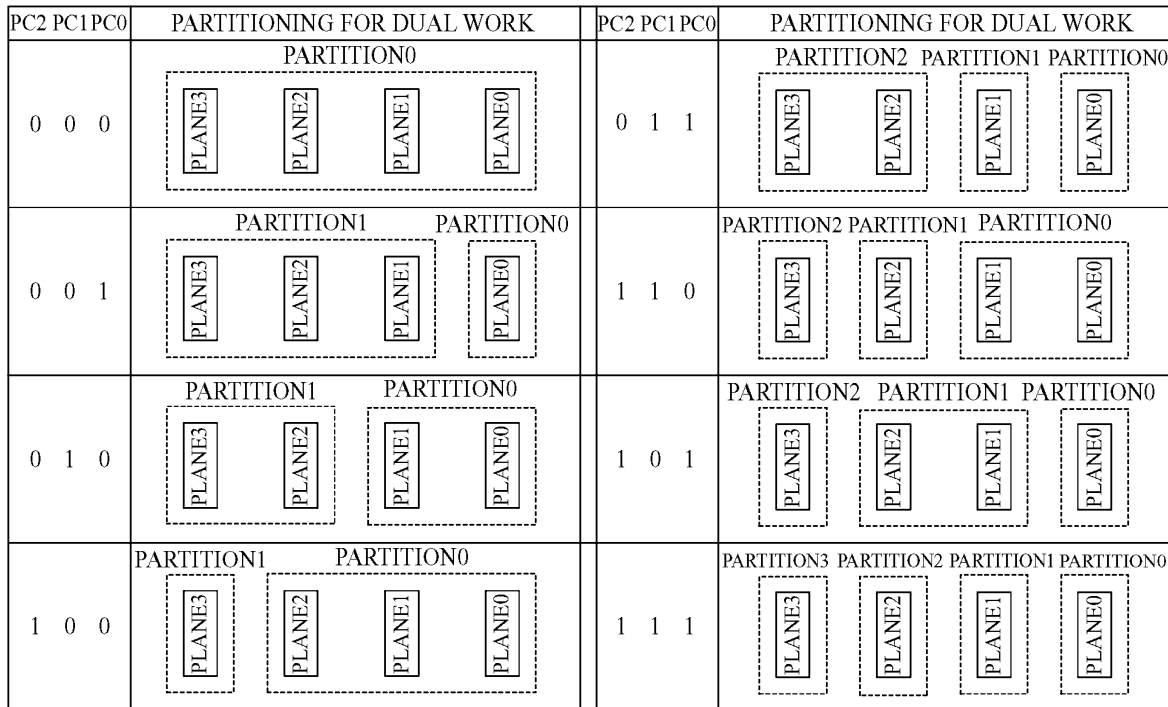

Figure 17. Partition Configuration
The partition configuration shown in Table 17 determines the partition boundaries for the dual work (simultaneous read while erase/program) operation. The partition boundaries can be set to any plane boundaries. If the partition configuration register bits PCR.10-8 (PC.2-0) are set to "001", the partition boundary is set between plane0 and plane1. There are two partitions in this configuration. Plane1-3 are merged to one partition. Status registers for plane1-3 are also merged to one. If the partition configuration register bits are set to "101", the partition boundaries are set between plane0 and plane1 and between plane2 and plane3. There are three partitions in this configuration. Plane1-2 are merged to one partition. If the partition configuration register bits are set to "111", there are four partitions. Each partition is just the same as each plane. Figure 17 illustrates the various partition configuration.
<p>PCR.15-11 = RESERVED FOR FUTURE ENHANCEMENTS (R)</p> <p>PCR.10-8 = PARTITION CONFIGURATION (PC2-0)</p> <ul style="list-style-type: none"> • 000 = No partitioning. Dual Work is not allowed. • 001 = Plane1-3 are merged into one partition. (default in a bottom parameter device) • 010 = Plane 0-1 and Plane2-3 are merged into one partition respectively. • 100 = Plane 0-2 are merged into one partition. (default in a top parameter device) • 011 = Plane 2-3 are merged into one partition. There are three partitions in this configuration. Dual work operation is available between any two partitions. • 110 = Plane 0-1 are merged into one partition. There are three partitions in this configuration. Dual work operation is available between any two partitions. • 101 = Plane 1-2 are merged into one partition. There are three partitions in this configuration. Dual work operation is available between any two partitions. 	<ul style="list-style-type: none"> • 111 = There are four partitions in this configuration. Each plane corresponds to each partition respectively. Dual work operation is available between any two partitions. <p>PCR.7-0 = RESERVED FOR FUTURE ENHANCEMENTS (R)</p> <p style="text-align: center;">NOTES:</p> <ol style="list-style-type: none"> 1. After power-up or device reset, PCR10-8 (PC2-0) is set to "001" in a bottom parameter device and "100" in a top parameter device. 2. See Figure 17 for the detail on partition configuration. 3. PCR.15-11 and PCR.7-0 bits are reserved for future use. If these bits are read via the Read Identifier Codes/OTP command, the device may output "1" or "0" on these bits.